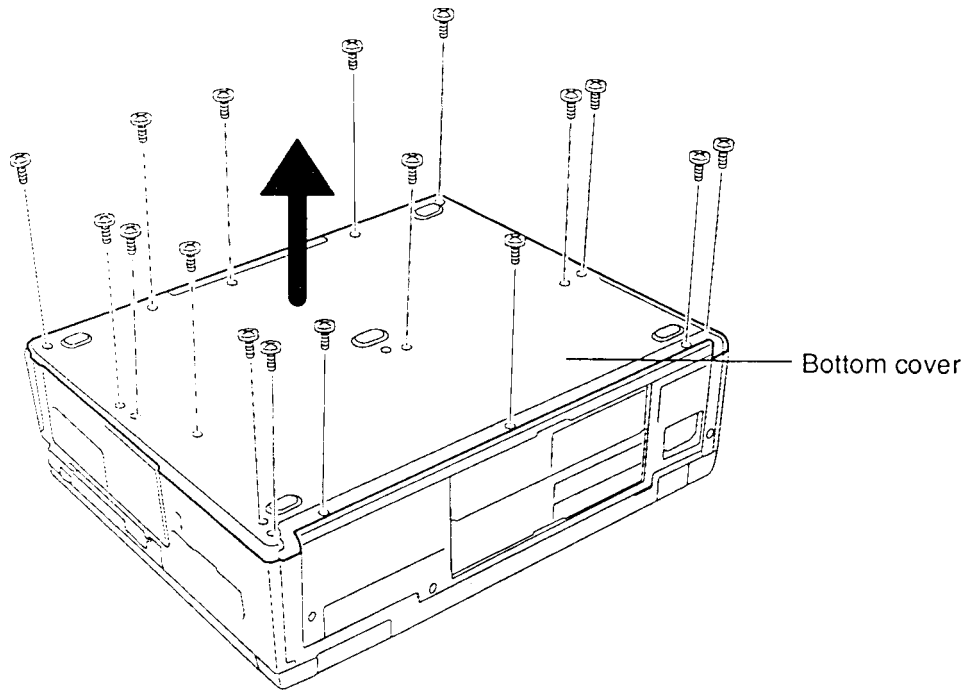

Figure 4-18 Removing the Bottom Cover
5. Remove the fourteen (14) **M3x6 silver screws**, and lift the **bottom cover** off the computer (Figure 4-18).
1. Place the **bottom cover** on the computer and secure it with fourteen (14) **M3x6 silver screws** (Figure 4-18).